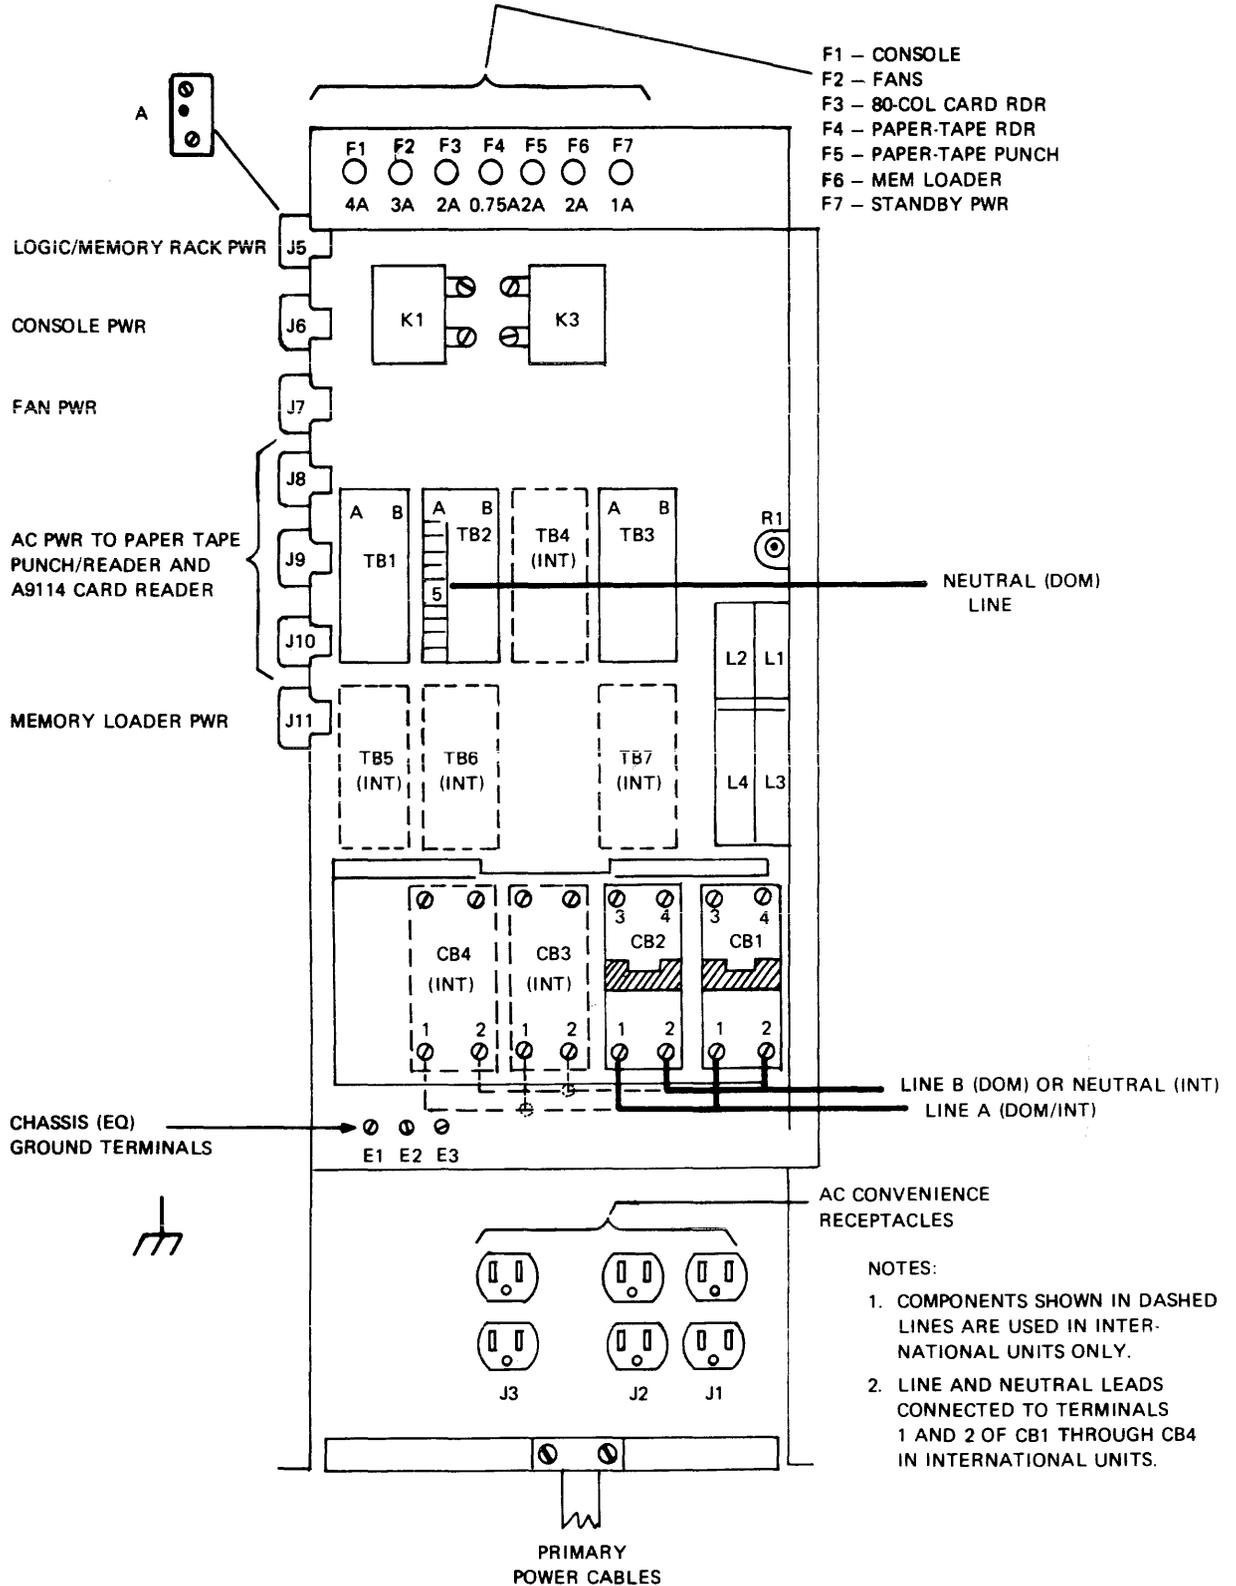

Figure III-14. B 721 PROCESSOR POWER CONTROL PANEL LAYOUT (DOMESTIC AND INTERNATIONAL)
Figure III-14 shows the layout of the B 721 Power Control Assembly front panel, where the primary AC power input connections are made and where the AC power turnon and measurement checks are performed. For identification purposes, the wire color codes of the line, neutral, and ground connections are as follows:
2. Make certain that circuit breakers CB1 and CB2 (and CB3 and CB4 for international units) on processor power control assembly are in OFF position. (See Figure III-14.)
5. Measure primary AC input voltages (RMS) at Processor power control panel (Figure III-14) as follows:
- 107 to 127 volts AC between neutral (white wire) at TB2-5 and line 1 (A) (black wire) at CB1-1.
- 107 to 127 volts AC between neutral (white wire) at TB2-5 and line 2 (B) (red wire) at CB1-2).
- 216 to 252 volts AC between lines 1 (A) and 2 (B).
Repeat line checks at CB2 of Domestic units or at CB2, CB3, and CB4 of International units, as required. (See Figure III-14.)